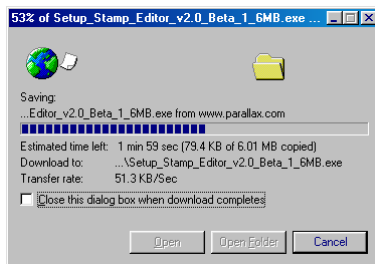

Figure 1-12: Download Progress Window
- √ Wait while the BASIC Stamp Editor installation program downloads (shown in Figure 1-12). This may take a while if you are using a modem connection.